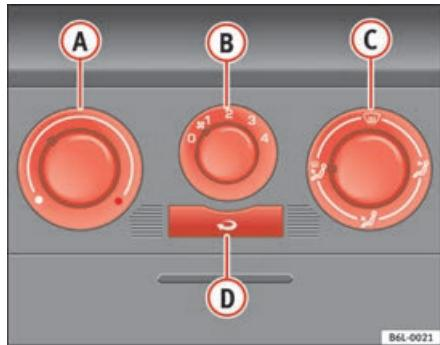

Fig. 91 On the dash panel: Heater controls
- Using the controls → fig. 91 (A) and (C) and with the switch (B) you can set the temperature, air distribution and the blower speed.
- Press the button (D) to switch air recirculation mode on or off. A button is illuminated by a yellow lamp for as long as the function is switched on.